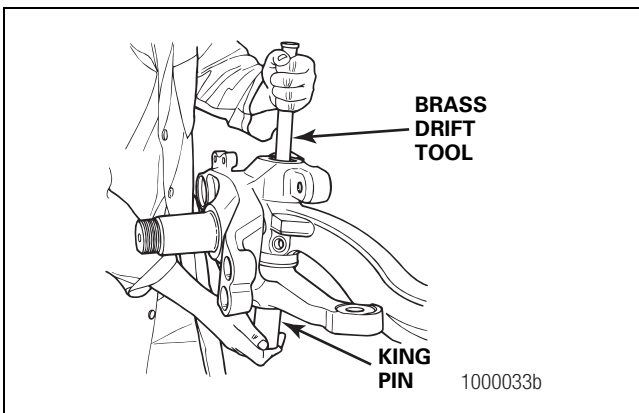

Figure 4.23
- A. Use a hammer and brass drift to remove the king pins from the knuckle. Figure 4.23.